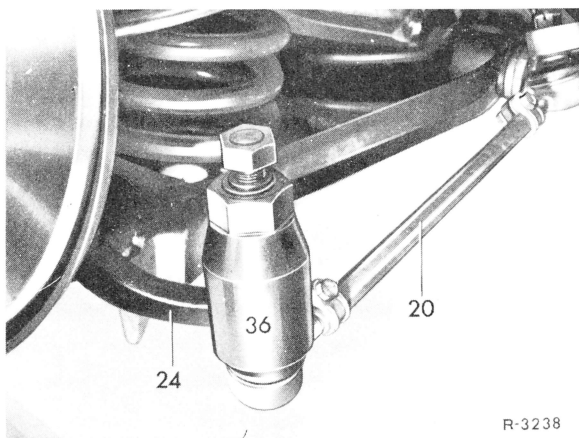

Fig. 4
**6** Remove track rod from steering knuckle arm (Fig. 4).